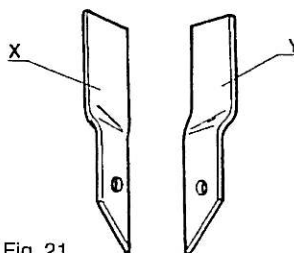

Fig. 21
Firstly identify left and right blades. Blade (x) is a left hand blade and (Y) right hand. (see fig.21)